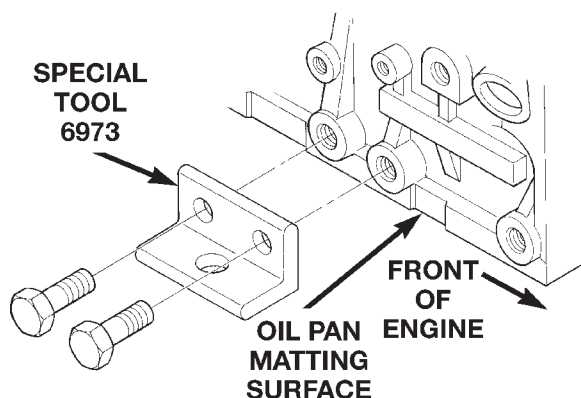

Fig. 30 Bracket for Cradle Post Support
- (11) Discharge Air Conditioning System. Refer to Group 24, Air Conditioning for procedure.
- (12) Hoist vehicle and remove right inner splash shield.
- (13) Remove accessory drive belts. Refer to Group 7, Cooling System for procedure.
- (14) Remove axle shafts. Refer to Group 2, Suspension and Driveshaft for procedure.
- (15) Disconnect exhaust pipe from manifold.
- (16) Remove front and rear engine mount brackets from the body.
- (17) Lower vehicle. Remove air cleaner assembly.
- (18) Remove power steering pump and reservoir. Set them aside.
- (19) Remove A/C compressor.
- (20) Remove ground straps to body.
- (21) Mount the bracket (Special Tool 6973) to the right side of the cylinder block (Fig. 30). Align the front adjustable post with the hole in the bracket.